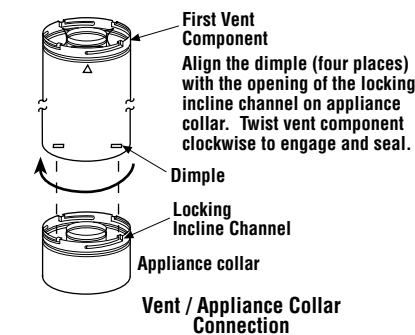

Figure 18
B. Attach vent components to appliance - Secure Vent SV4.5 direct vent system components are unitized concentric pipe components featuring positive twist lock connections (see **Figure 18**). All of the appliances covered in this document are fitted with collars having locking inclined channels. The dimpled end of the vent components fit over the appliance collar to create the positive twist lock connection.
To attach a vent component to the appliance collar, align the dimpled end over the collar, adjusting the radial alignment until the four locking dimples are aligned with the inlet of the four inclined channels on the collar (refer to **Figure 18**). Push the vent component against the collar until it fully engages, then twist the component clockwise, running the dimples down and along the incline channels until they seat at the end of the channels. The unitized design of the **Secure Vent** components will engage and seal both the inner and outer pipe elements with the same procedure. Sealant and securing screws are not required.
Secure Vent SV4.5 direct vent system components are unitized concentric pipe components featuring positive twist lock connection, (*refer to Figure 18 on page 11*). All of the appliances covered in this document are fitted with collars having locking inclined channels. The dimpled end of the vent components fit over the appliance collar to create the positive twist lock connection.